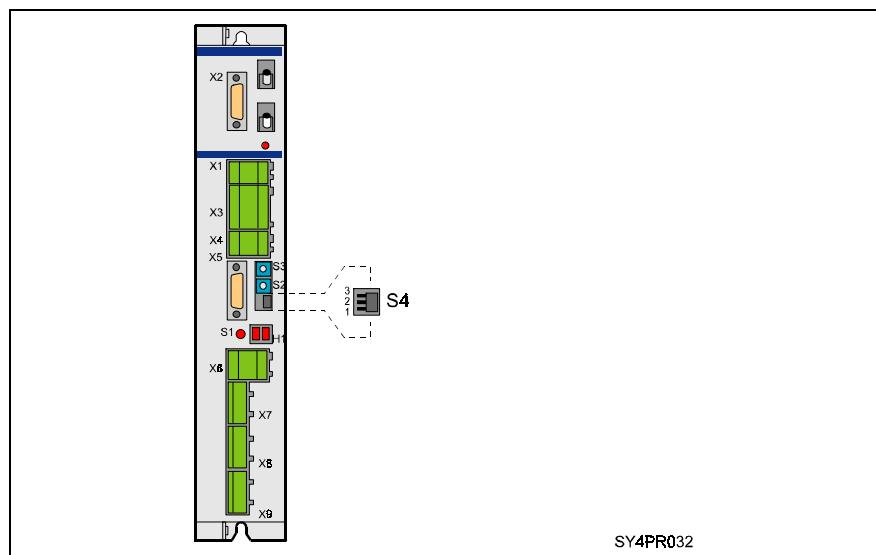

Fig. 6-17: DIP switch of the DKC02.1 (ECODRIVE)
- ECODRIVE (DKC02.1)** Output power is set via switches S4/2 and S4/3 on the front panel (see Fig. 6-17).